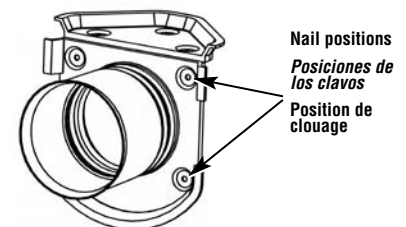

Figure 3 *Figura 3* Illustration 3
3. Secure the sleeve to the form using nails or screws at the indicated positions on the sleeve (Figure 3). Attach at all locations to ensure a concrete tight seal against the form. The head of the nail or screw should be a minimum of 1/4" (.25") and a maximum of 7/16" (.437") for proper retention and removal.